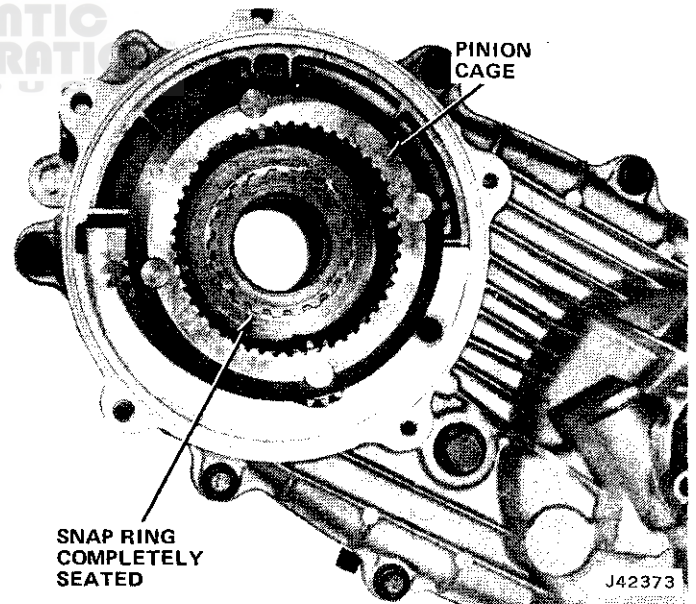

Fig. 2D-25 Pinion Cage and Snap Ring Position
- (2) Install pinion cage retaining snap ring. Be sure snap ring is seated completely in groove (fig. 2D-25).
- (3) Clean sealing ring groove in transfer case cover and install sealing ring.
- (4) Position reduction unit on transfer case. Mesh pinion cage gears with sun gear and ring gear and align